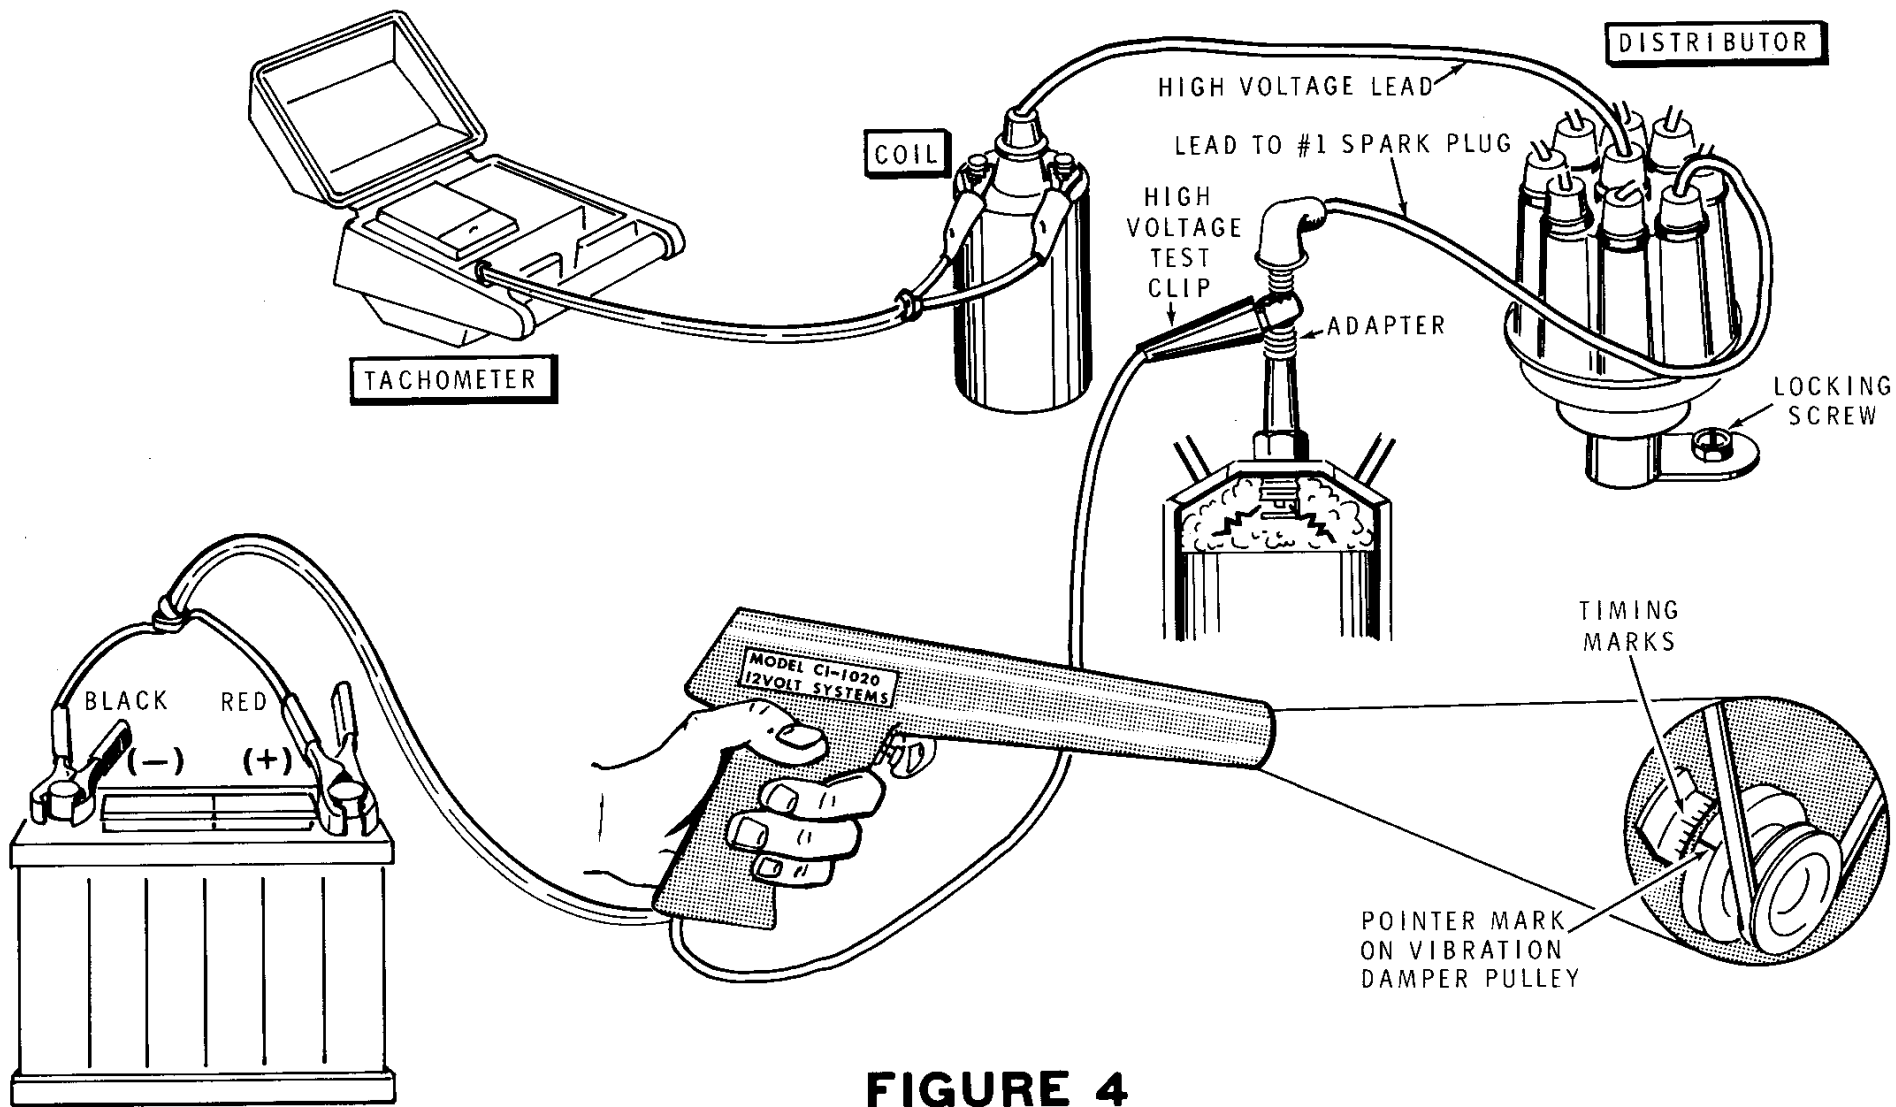

FIGURE 4
3. Be sure the Timing Light, its power cord and high voltage cable are correctly positioned as shown in Figure 4 so they are clear of the fan and fan belt.
Refer to Figure 4 (fold-out from this page) for an illustration of the hookup of the Timing Light to an automobile ignition system.